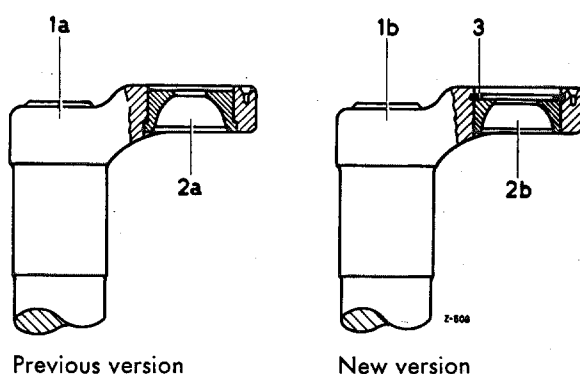

Fig. 46 — 4/19
For production reasons, in current models the steering shaft arm has a ball-cup with no shoulder. The new ball-cup (2 b) is locked with a snap ring (3) to prevent displacement (Fig. 46 — 4/19).